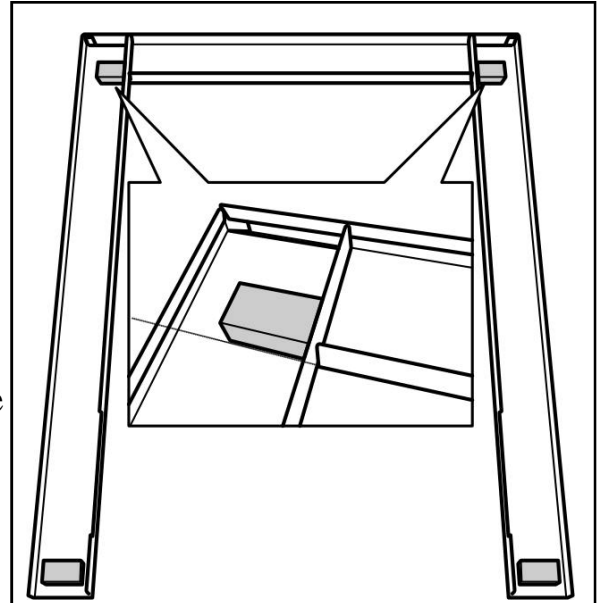

Figure 17. (Anthem, Minima and Style fascia only).
4. Locate the four magnets on the side trims as in figure 17. Note that bottom edge of the the upper magnets are in line with the bottom of the top trim.